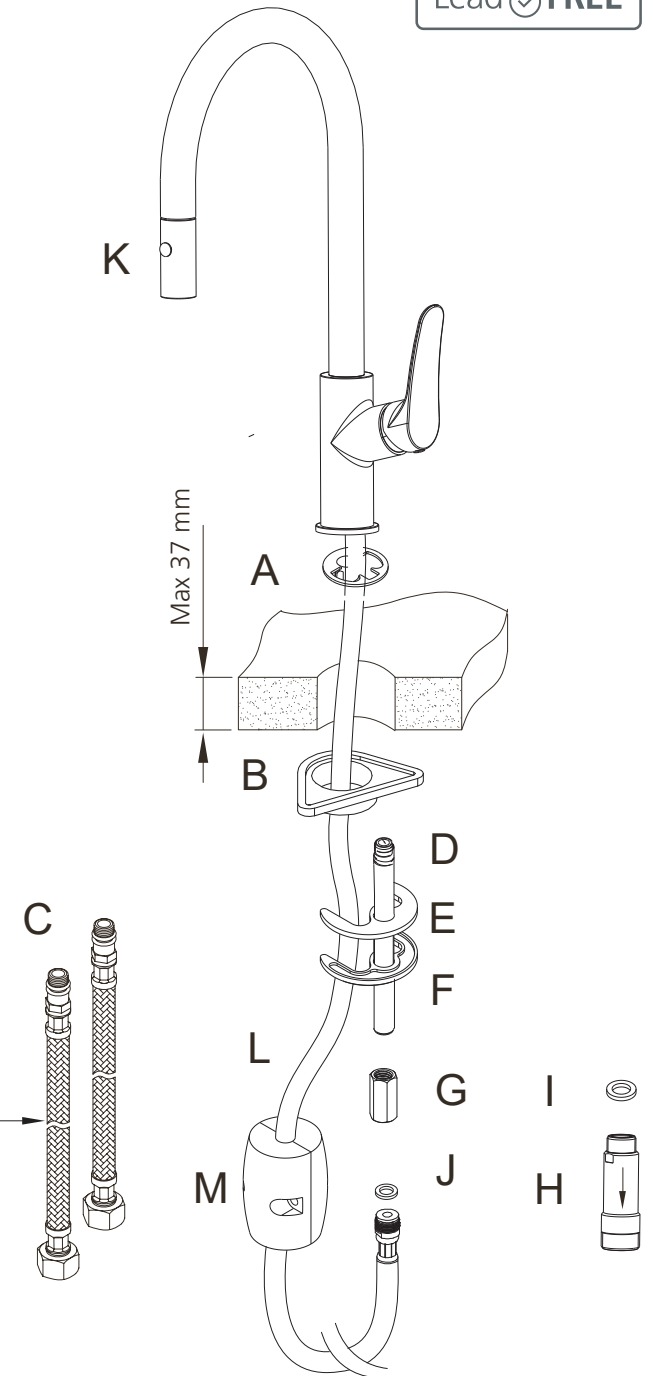

FIGURE 1
3. Ensure Product is complete as per exploded drawing (Figure 1).
6. Ensure bench sealing washer (A) is in place on base of the Mixer.
7. Firmly screw the Mixer Tails (C) into base of the Mixer being careful to avoid damage to the o'ring seals. The Mixer Tails are colour coded, red for hot and blue for cold, the Mixer base inlet holes are stamped with 'H' for hot and 'C' for cold, or red mark for hot and blue mark for cold. Hand tighten only.
8. Screw Threaded Rod (D) into base of Mixer.
9. Feed the Mixer Tails (C) and (L) through the mounting surface each Tail alternately. Feed the Braided Hose through the mounting surface and the Stabiliser Plate (B), and position the mixer on the mounting surface ensuring the sealing washer (A) and Stabiliser Plate (B) are positioned correctly.
10. Slide Rubber Horse Shoe (E) onto the Threaded Inlet Tube (D) followed by Metal Horse shoe Plate (F).
11. Using Fixing Nut (G) tighten Mixer to the mounting surface.
12. Screw Dual Check Valve (H) to end of Inlet Tube (D) ensuring sealing washer (I) is in place.
13. Screw male threaded end of Braided Hose (L) into Hose Dual Check Valve (H) ensuring sealing washer (J) is in place.